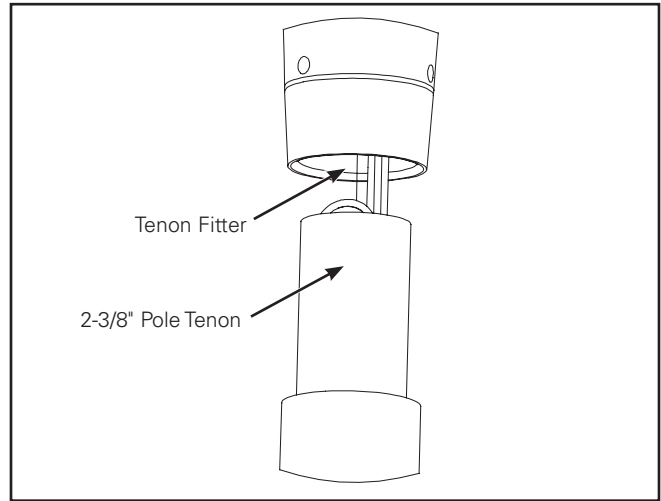

Figure 2.
4. Slip fit the fixture onto the tenon. (Figure 2.)